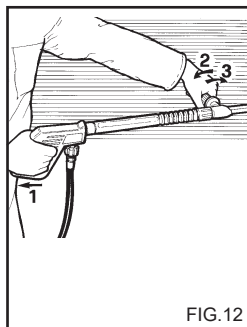
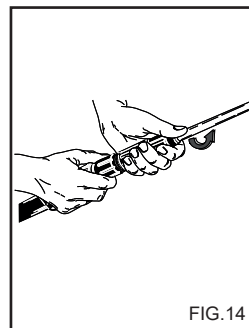

FIG.12
FIG.14
USE OF THE DOUBLE LANCE (fig. 12) (optional accessory)
2) Detach the extension from the handgrip and fit the double lance or lance with adjustable head (fig. 14). Operate the high pressure washer, activate the detergent suction control on the lance (figs. 12, 13) and spray the surface to be washed, working from the bottom upwards. Leave to work for a few minutes..